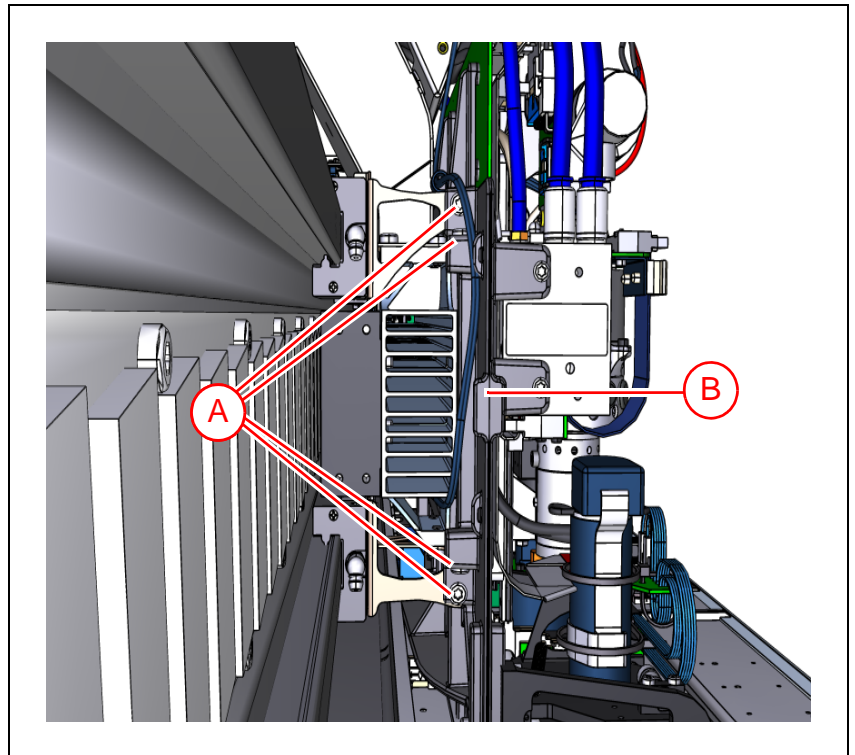

Figure 5-17. Removing the carrier plate.
7. There is a total of six screws attaching the carrier plate ('B' in Figure 5-17) to the heat sink unit. Two in the upper left corner and two in the lower left corner ('A'). On the opposite side of the carrier plate there is only one screw in each corner.